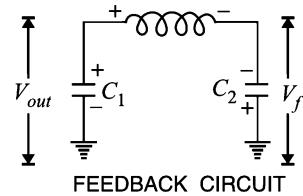

Fig. 14.11
**Circuit operation.** When the circuit is turned on, the capacitors  $C_1$  and  $C_2$  are charged. The capacitors discharge through  $L$ , setting up oscillations of frequency determined by exp. \*\* (i). The output voltage of the amplifier appears across  $C_1$  and feedback voltage is developed across  $C_2$ . The voltage across it is  $180^\circ$  out of phase with the voltage developed across  $C_1$  ( $V_{out}$ ) as shown in Fig. 14.11. It is easy to see that voltage feedback (voltage across  $C_2$ ) to the transistor provides positive feedback. A phase shift of  $180^\circ$  is produced by the transistor and a further phase shift of  $180^\circ$  is produced by  $C_1 - C_2$  voltage divider. In this way, feedback is properly phased to produce continuous undamped oscillation.
\*\* Referring to Fig. 14.11, it is clear that  $C_1$  and  $C_2$  are in series. Therefore, total capacitance  $C_T$  is given by;
\*\*\* Referring to Fig. 14.11, the circulating current for the two capacitors is the same. Further, capacitive reactance is inversely proportional to capacitance.